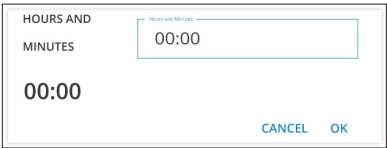

Fig. 59—(Left) If you select the pencil icon, you may use the keyboard to enter a four-digit number in the form of HHMM to set the period.
- If you click on the pencil, a popup appears (Fig. 59). enter a four-digit number (HHMM) to set the hours and minutes.